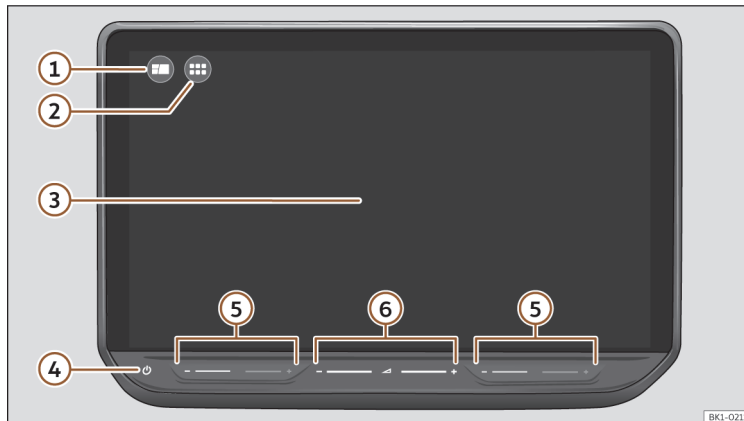

Fig. 173 Overview: control unit
Customise the top menu or the HOME >>> **Fig. 173** ① view to quickly access your favourite or most frequently used functions.